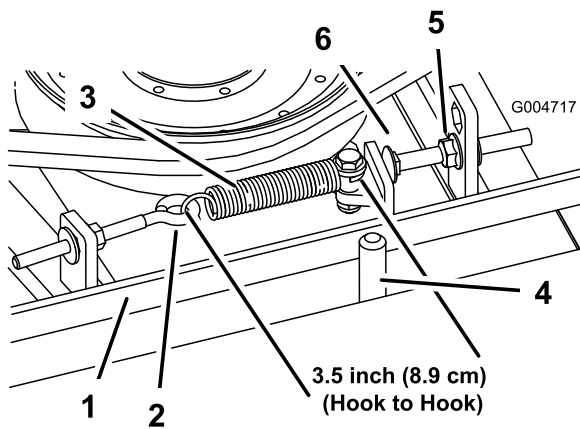

Figure 64
When properly tensioned, the extension spring (hook to hook) measurement should be approximately 3.50 ±.25 inch (inside). Once the correct spring tension is attained, adjust the stop bolt (carriage bolt) until there is approximately .125 +.060/-.000 inch clearance between the head of the bolt and the idler arm (Figure 64).
Note: Make sure the belt is positioned on the spring side of the belt guide (Figure 64).
2. Loosen the eye bolt allowing the removal of the extension spring (Figure 64).
3. Loosen the flange nut securing the stop bolt to the mounting tab. Back off the nut enough to allow the idler arm to pass by the stop bolt (Figure 64). Move the idler pulley away from the belt to release belt tension.
- Note:** Make sure the belt is positioned on the spring side of the belt guide (Figure 64).
8. Reconnect the extension spring (Figure 64) to the eye bolt and tension the belt as follows: